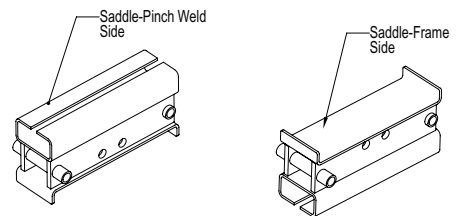

Figure 2 - Saddle Configuration
1. Verify that the product and the application are compatible, if in doubt call **Omega Technical Service (888) 332-6419**. Read the owner's manual completely and familiarize yourself thoroughly with this product, its components, and recognize the hazards associated with its use.
2. Assemble the Dolly as shown in Figure 2.
NOTE: The saddle has a flat side meant to go under frame rails and a slotted side meant to be used a pinch weld. Use the appropriate side for you application. Figure 2